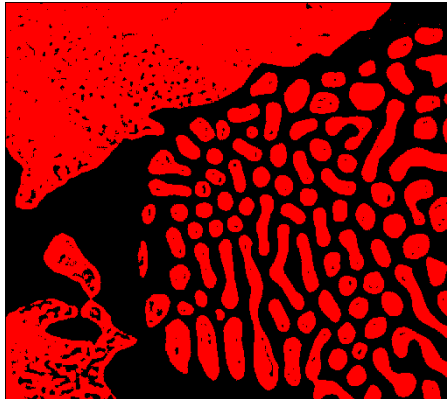

Figure 3-3. Separating Particles from the Background with Thresholding
5. Click **OK** to apply the threshold and add this step to the script. Figure 3-3 shows the thresholded image. The pixels that you selected for processing appear red. Unselected pixels appear black.